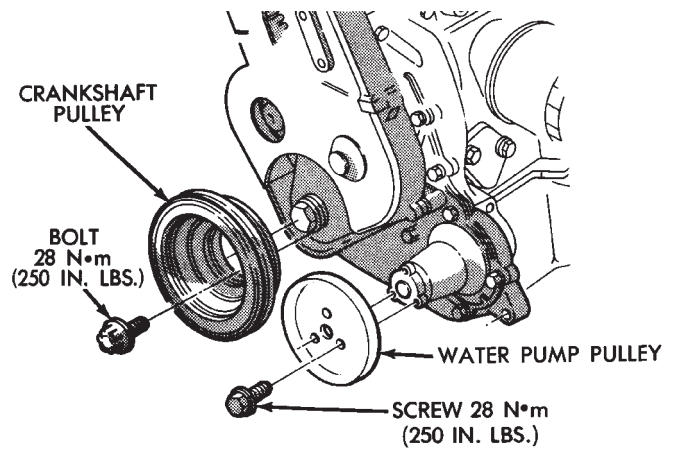

Fig. 3 Crankshaft and Water Pump Pulley
(1) Remove right engine mount yoke screw. (Refer to Engine Mounts (Fig. 3) securing isolator support bracket to engine mount bracket.
- (3) Remove screws retaining water pump pulley and bolts retaining crankshaft pulley (Fig. 3) and lay pulley aside.
- (4) Remove nuts holding cover to cylinder head.